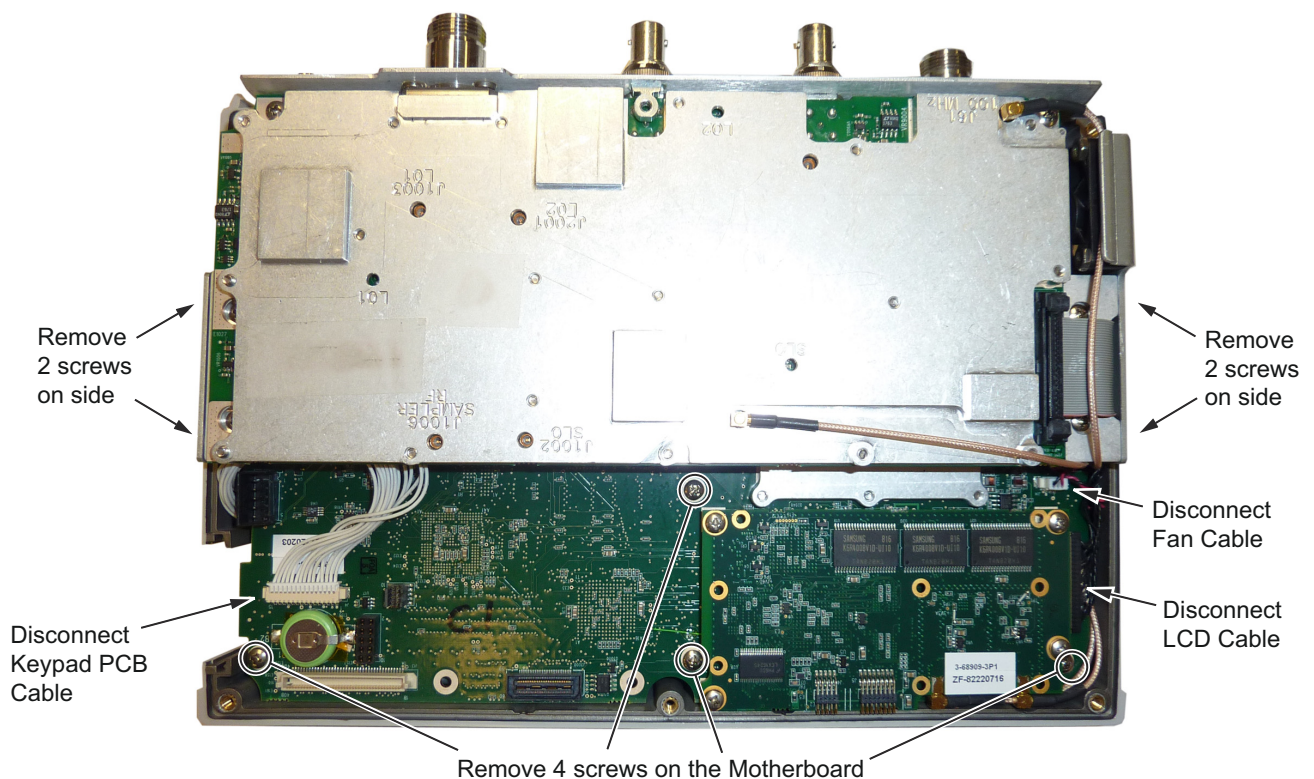

Figure 6-4. Removing the PCB Assemblies out of the Case
3. Use a Phillips screwdriver to remove the 8 screws securing the Assemblies to the Case (Figure 6-4).